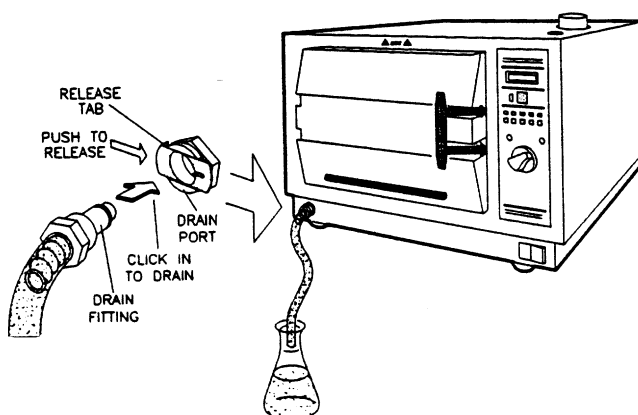

Figure 4: Draining the Waste Tank
2. Lock the drain fitting into the drain port. Waste will begin to exit the drain (see Figure 4).